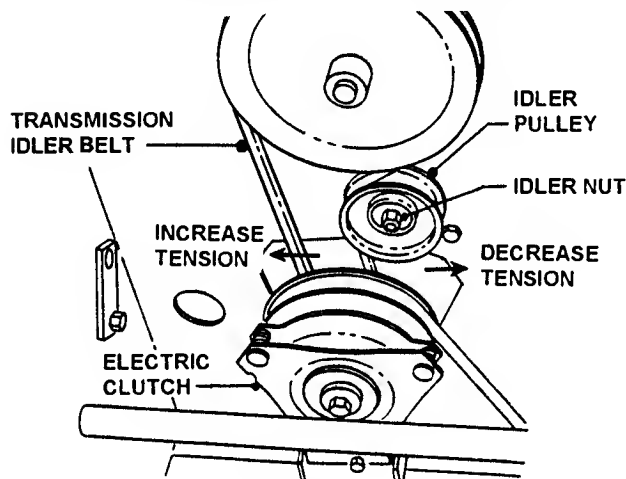

FIGURE 27
3. Slide idler towards belt to increase tension or away from belt to decrease tension. See Figure 27.